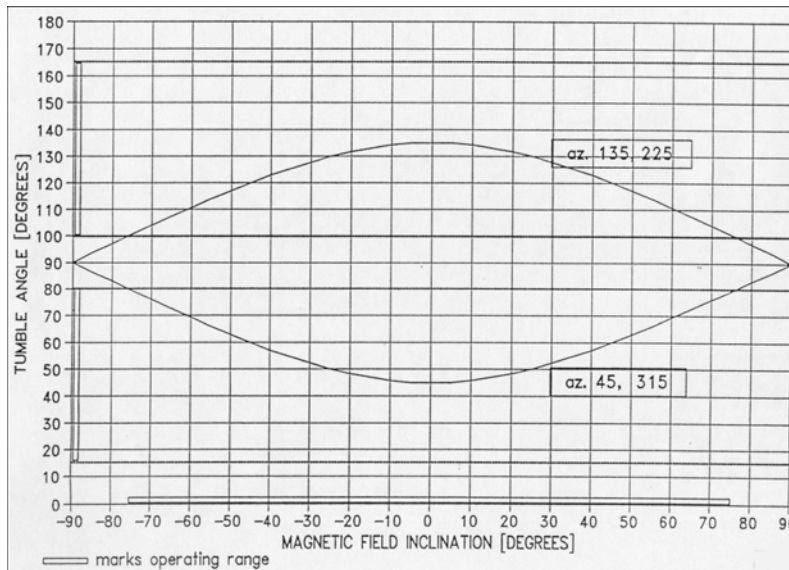

Figure 16 - Plot of tumble angle versus magnetic field inclination. Sensor inclination is 0°. Sensor azimuths are 45, 135, 225 and 315 degrees.
The orientation shown in Figure 16 has the advantage of covering the entire Earth except the polar regions. For large area, up to the field inclination of $\pm 45^\circ$, the sensor operates far from the dead zones, but the sensor operating hemisphere has to be changed when the flight direction is reversed.
2. the operation around the magnetic equator, extending well into the regions with the magnetic field inclinations up to 55°, is covered with the sensor inclination 0° and azimuths 45, 135, 225, 315 degrees, Figure 16.